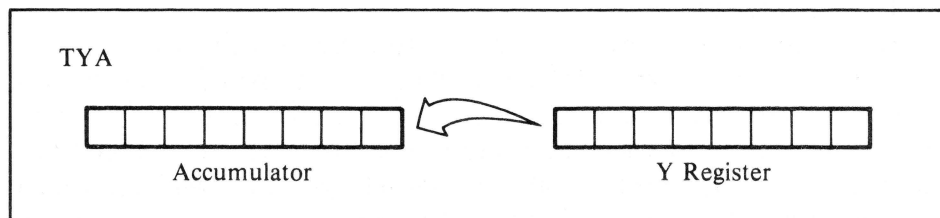

Figure 8-8. Transfer from Y register to accumulator
- **TYA** — Transfers the contents of the Y register to the accumulator (see Figure 8-8).